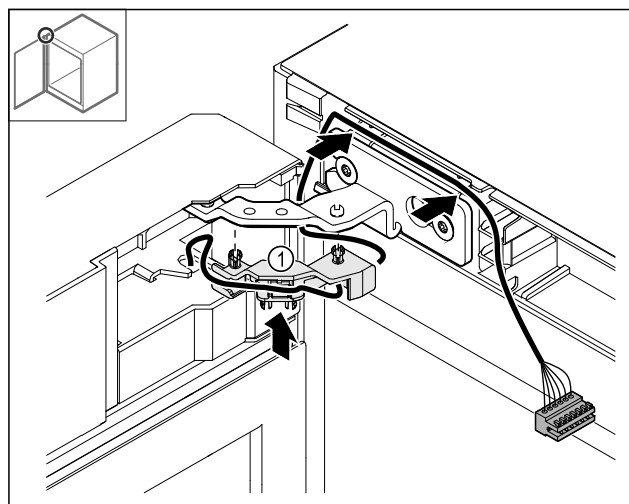

Fig. 51
- Push the cable holder Fig. 51 (1) into the hinge.